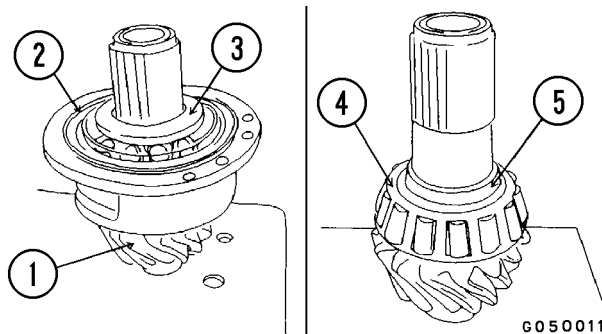

FIGURE 5-8. PINION BEARING
1. Remove carrier (2, Figure 5-8) together with inner bearing (3) from pinion gear (1).